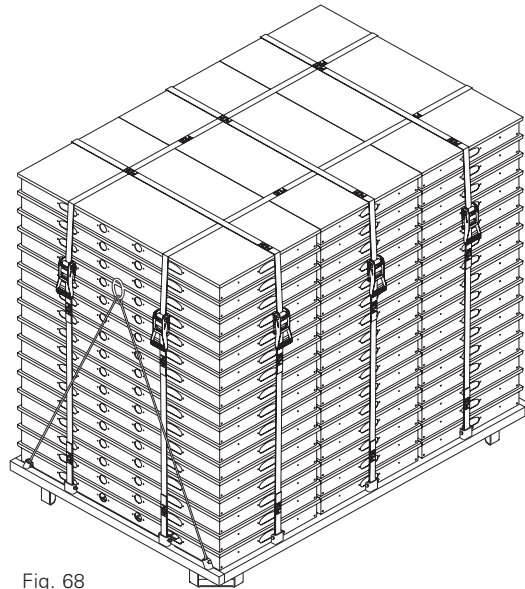

Fig. 68
6. For damage-free transportation, suitable PERI pallets and stacking devices are available. (Fig. 68)